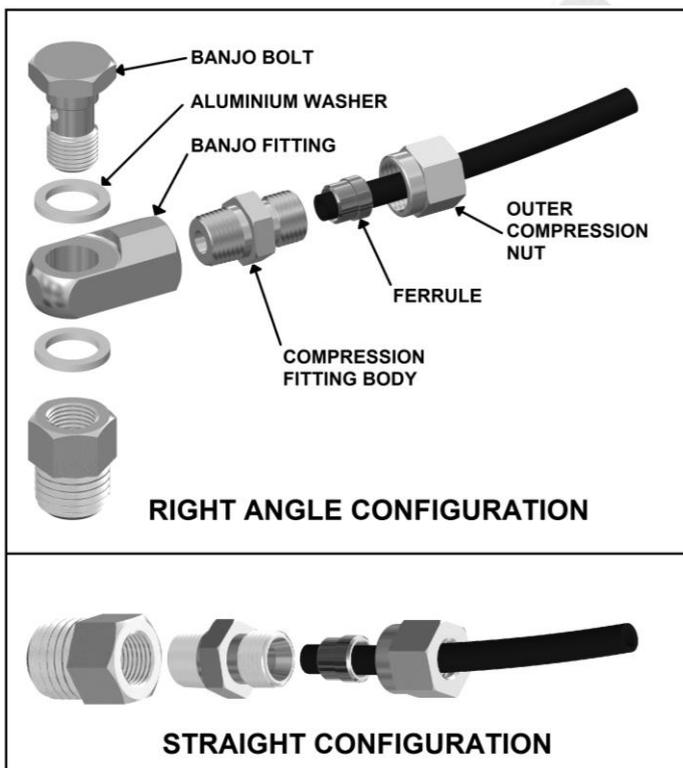

Figure 20.
- Assemble an aluminium washer onto the banjo bolt and insert through the banjo fitting. Assemble second aluminium washer and tighten into bulkhead fitting using a 14mm [9/16"] spanner. (Fig.20.)
- Insert the outer compression nut and ferrule over the air line. Ferrule should be orientated as per Fig.20.
NOTE : When right angle routing of the tube is not required, screw the compression fitting body straight into the bulkhead fitting body (Fig.20.).